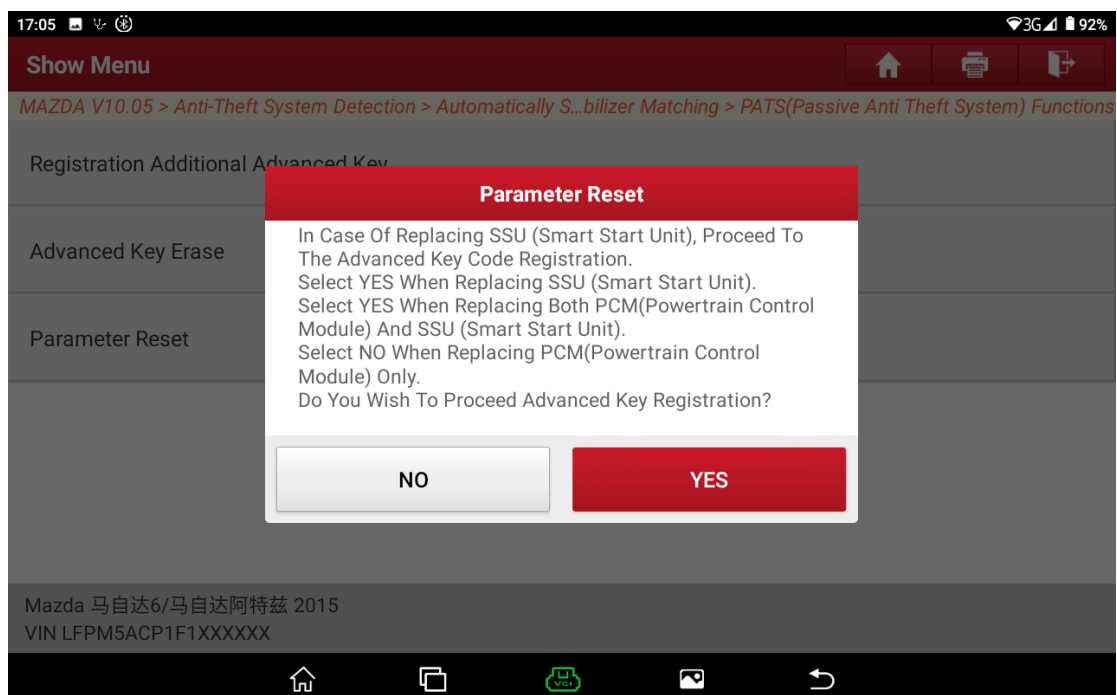

Figure 14
12. Prompt whether to execute [Advanced Key Erase]. Choose [No] to exit the function, or choose [Yes] to start to perform [Advanced Key Erase]. See Figure 14.